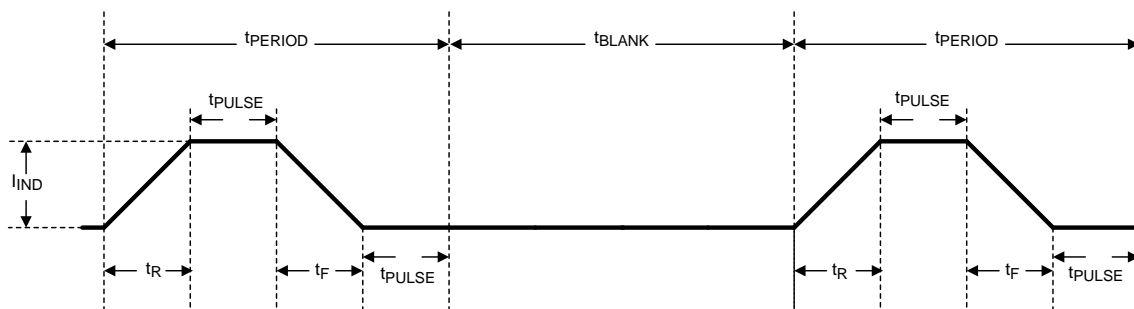

Figure 40. Message Indicator Timing Diagram
3. Ramp times for turnon and turnoff of the indicator current source (see Figure 40 for the message indicator timing diagram).
- (see Figure 40)